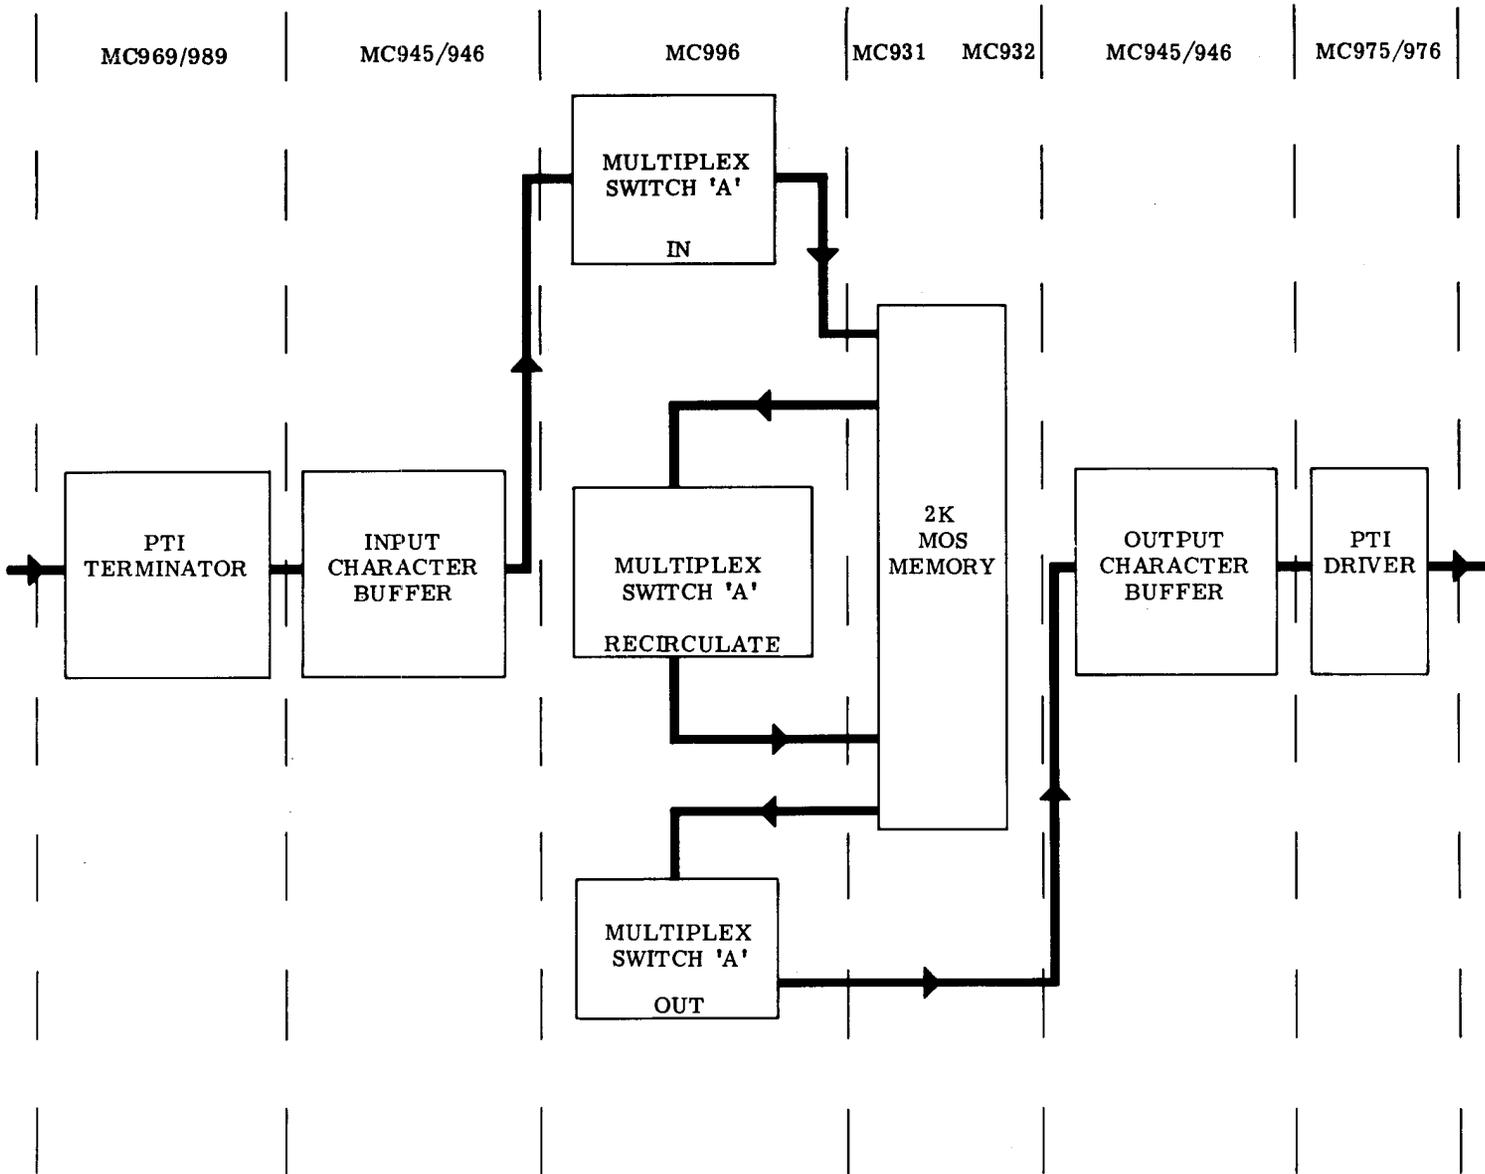

Figure 3 - Data Flow Diagram
4.01 The flow of data through either the CDBU801 or CDBU802 buffers using 2000 character storage, is shown in Figure 3.